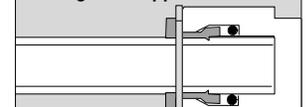

FIG. 4b
11. Apply locking clip for push in connector fittings. (See Fig. 4b). Clip fits around the connector to prevent leaks or accidental disconnection of the tube, then reconnect the power supply to disposal.